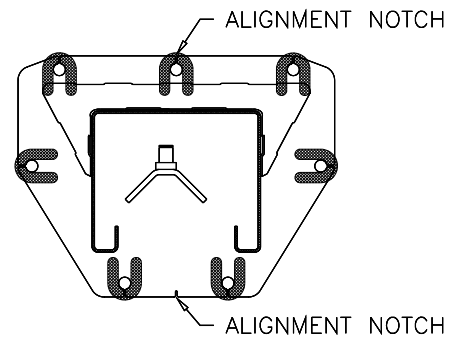

Fig 3 – Column Shimming
- 9) Shim both columns to plumb using the shims provided as shown in **Fig 3**. **DO NOT** shim more than 1/2" at any given point. Use a level no less than 24" in length to plumb columns.
- 13) Check idler column shimming. Use additional shims (see **Fig. 3**) to remove any gaps that may have been created while installing overhead beam. Tighten anchor bolts and re-check column for plumb. Torque to 150 foot pounds.